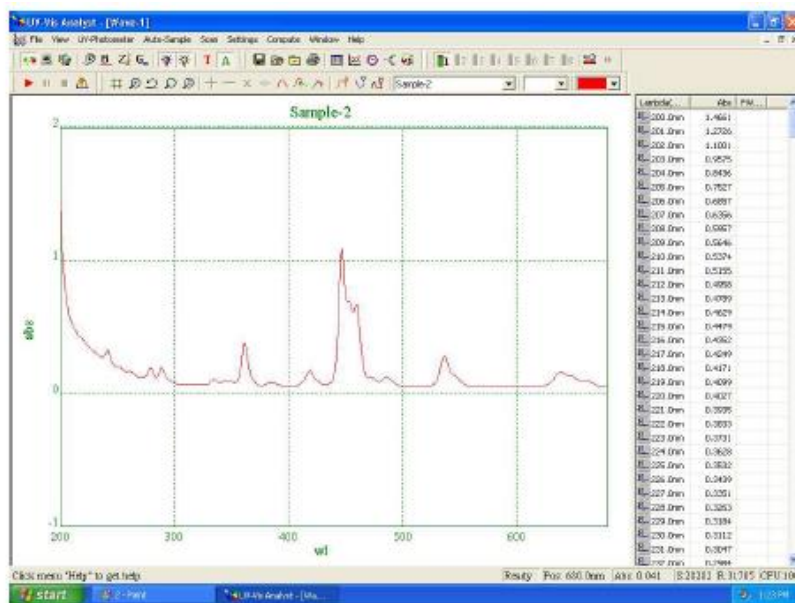

Fig. 4-13
12. Place sample into the sample holder. Click  to scan sample, the real time spectrum will be displayed (Fig 4-13). Click  to cancel while scanning.